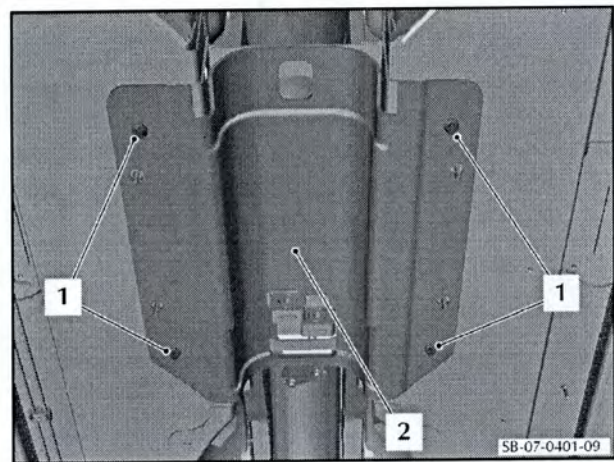

Figure 10
17. Remove the four bolts and four washers (1) that attach the tunnel heatshield (2) to the body. Remove the heatshield (2) (refer to Figure 10).